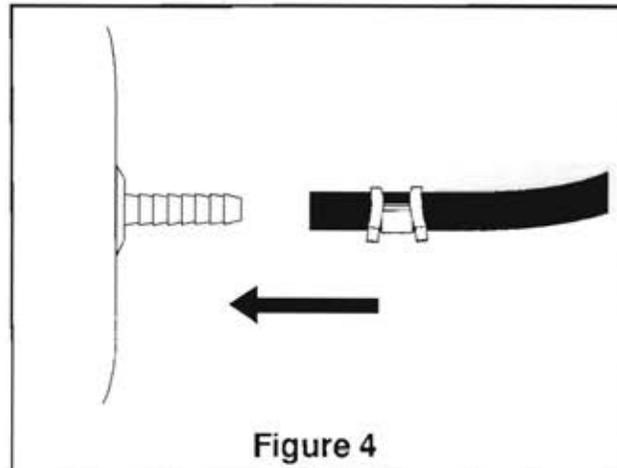

Figure 4
- F. With pliers slide the hose clamp forward until it fully covers barbed section (Figure 4).